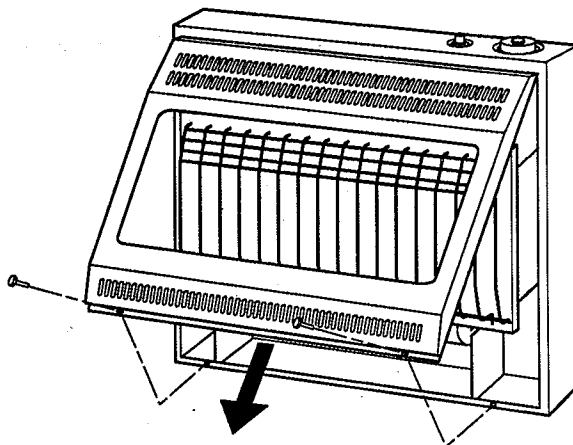

Figure 4 - Removing Front Panel Of Heater
1. Remove front panel of heater (see Figure 4, page 7).